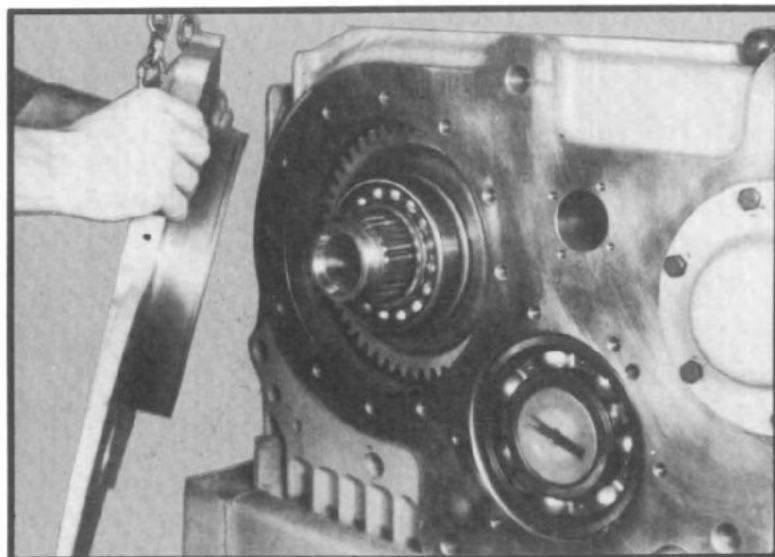
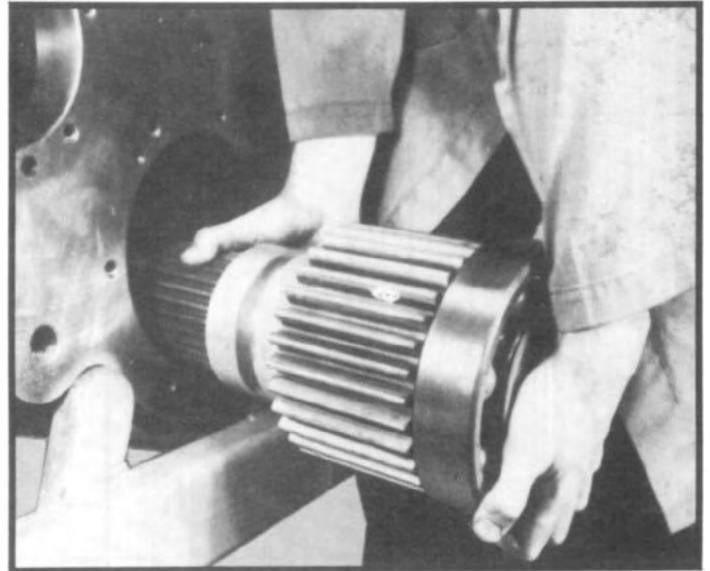

Fig. 70
Fig. 79
3.17 Remove fifteen capscrews from rear face plate and remove face plate from housing. It is recommended that two bolts or eyebolts be attached to the face plate and a chain hoist be attached to the bolts or eye bolts with a chain. (See fig. 79.) The face plate can then be worked out of transfer case housing, supported by the chain hoist. (See fig. 70.) Note: As the face plate is being worked out of the transfer case tap the rear of the lower shaft with a soft hammer to remove rear bearing from the face plate.
5. Withdraw intermediate shaft and intermediate shaft underdrive gear as a unit through front bearing bore. Use care to prevent damage to direct drive gear as shaft pulls free. (See fig. 79.)